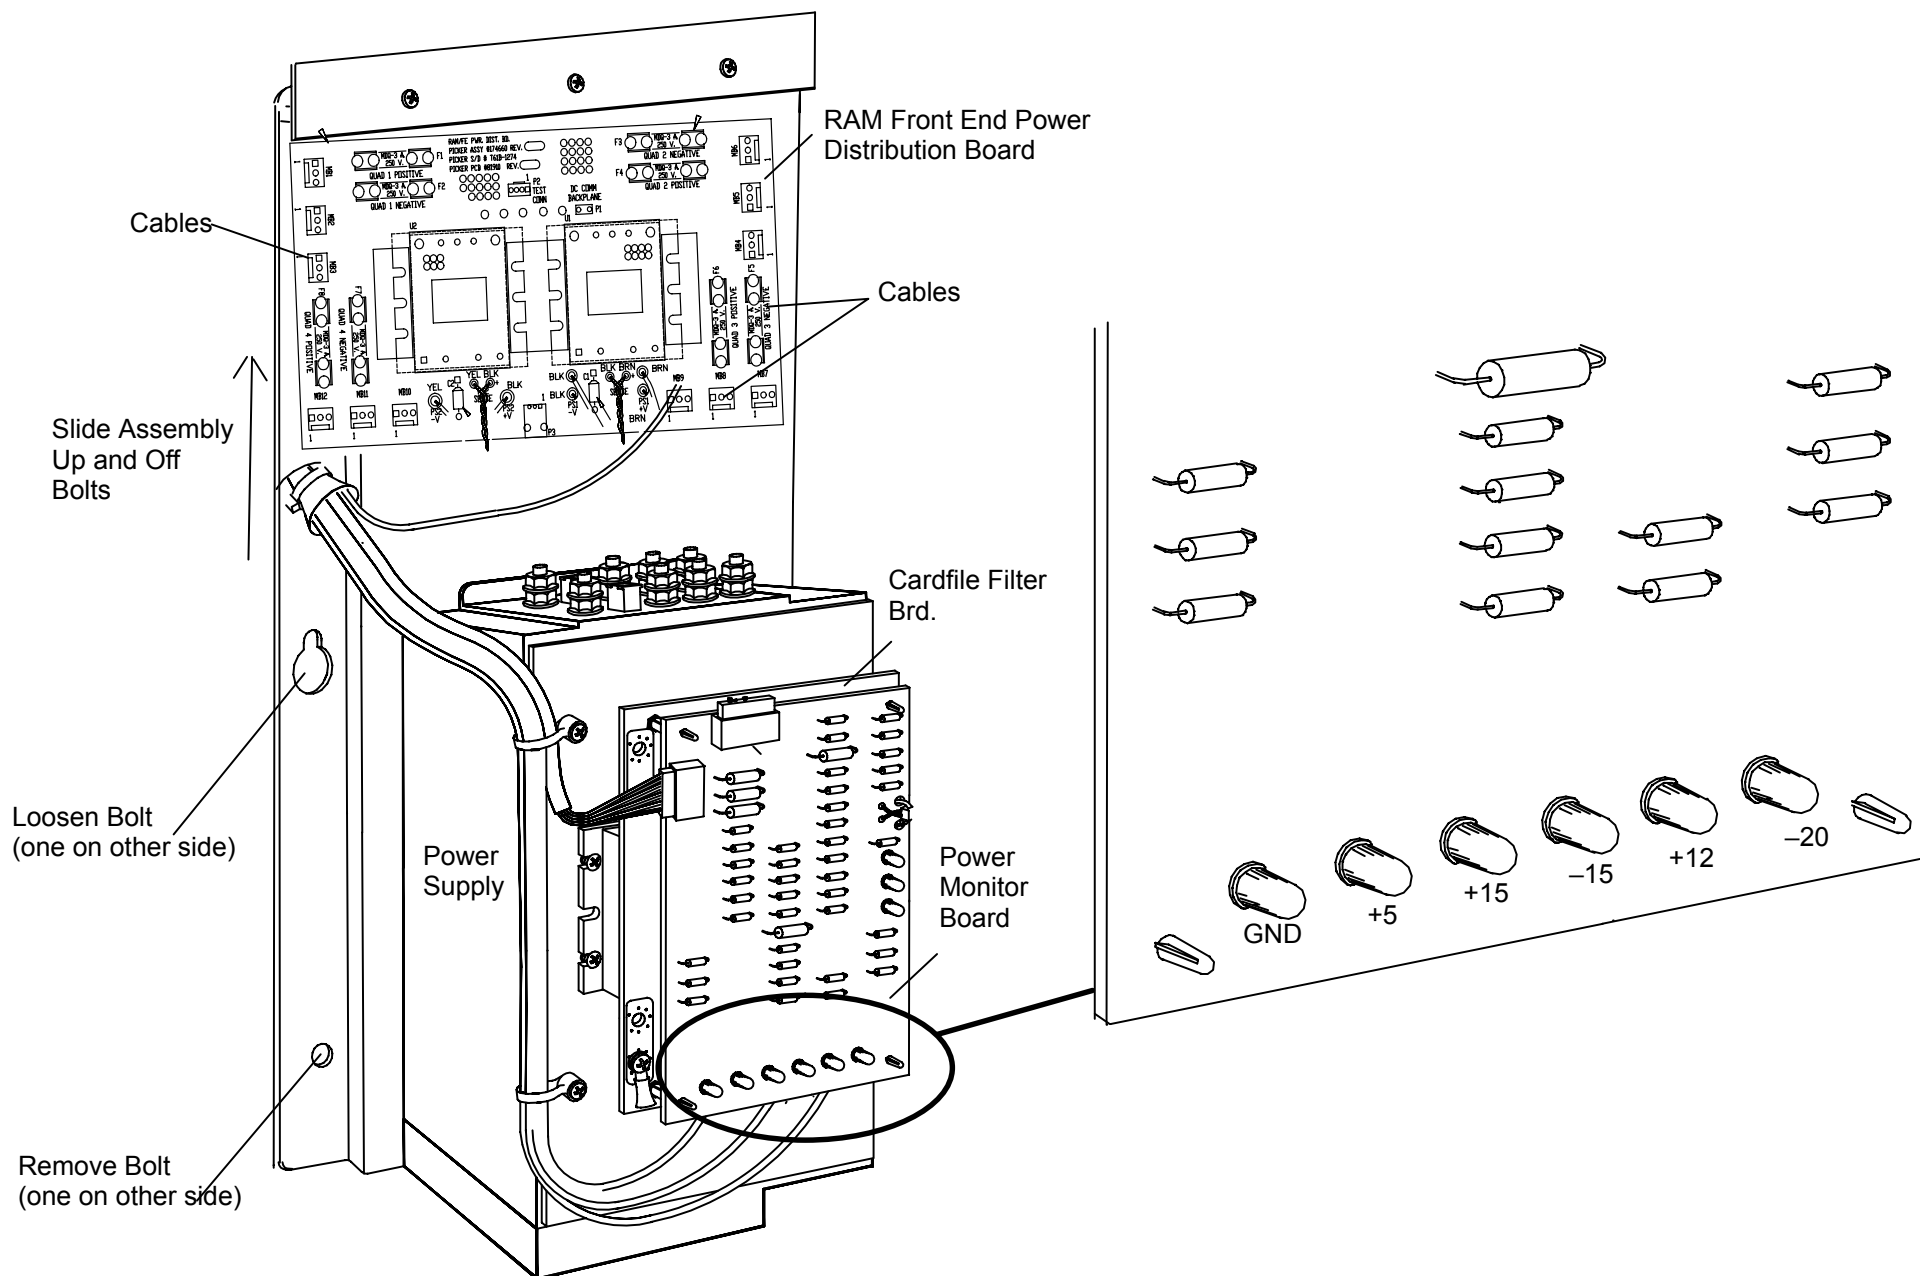

FIGURE 311 DC Power Supply / Power Monitor Board / CardFile Filter PCB / Voltage Test Points
3. The power supply assembly is located at the middle left side of the gantry. A detailed view is shown in Figure 311.
7. Remove the two lower hex head bolts. Loosen the two upper bolts. Refer to Figure 311.
13. Verify the +5, +15, -15, +12 and -20 VDC voltages with respect to ground. Refer to Figure 311.